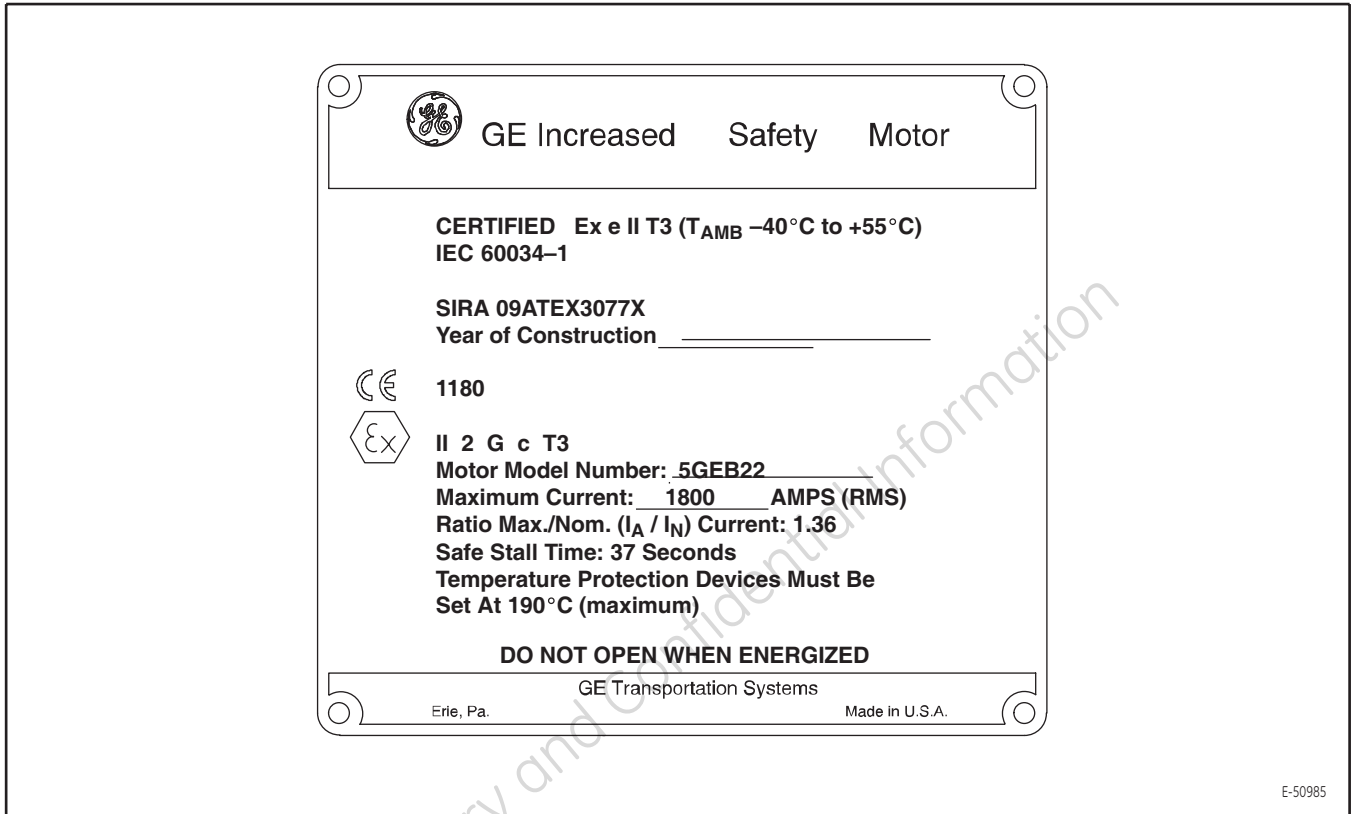

Figure 4. Safe Environmental Parameters for the 5GEB22 Motor.
4. Safe electrical parameters are defined in Figure 3 and Figure 4 defines the safe environmental parameters for the drilling motor model 5GEB22. The drilling motor may be operated in the presence of typical vibration levels encountered on land and offshore rigs.